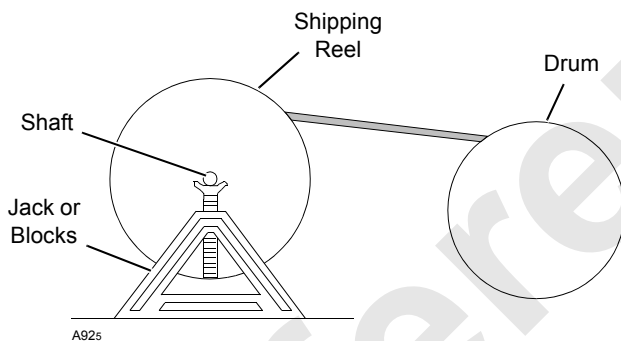

FIGURE 4-36
1. Mount wire rope shipping reel on a shaft supported at both ends by jacks or blocks as shown in Figure 4-36.